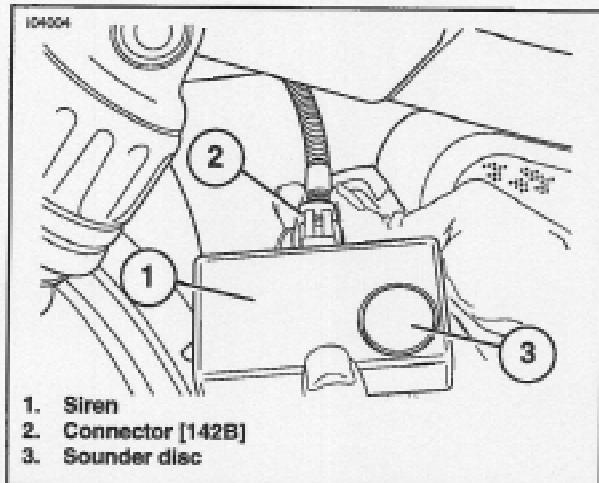

Figure 4. Install Siren Connector (VRSC Models)
6. See Figure 4. Route the wiring harness out from under the right side of the fender. Obtain the siren (1) from the kit, and insert connector [142B] (2) into the siren receptacle until the connector latches securely.